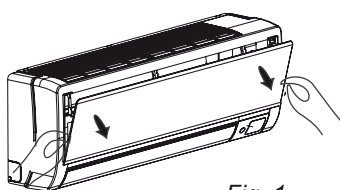
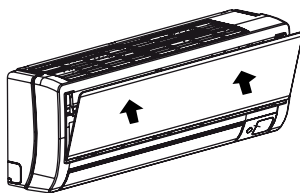

Fig. 1
Fig. 2
1. Grasp both sides of the panel and pull it down (Fig. 1): the panel opens upward to an angle of 15° (Fig. 2). Push the panel upward and then lift it up. (Fig. 3).